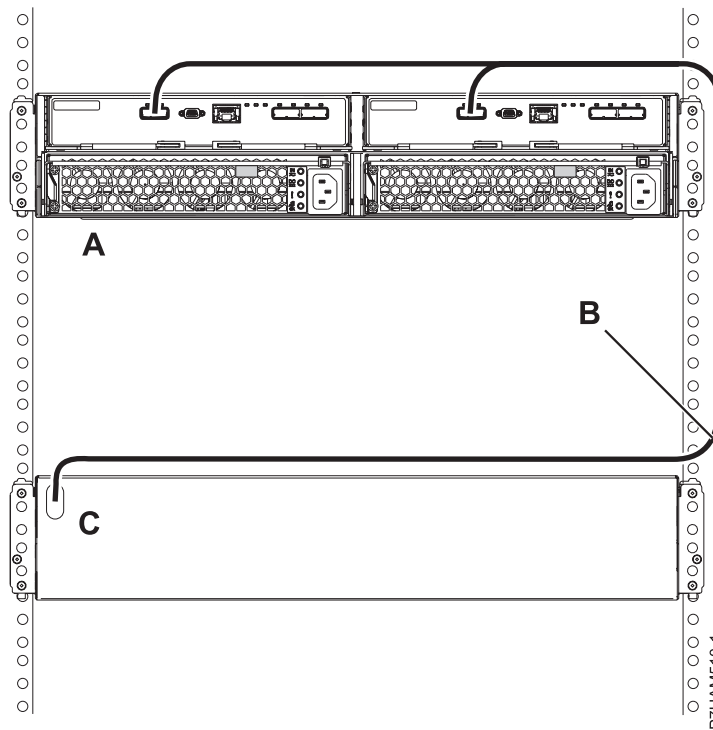

Figure 34. Mode 1 connection of one 5887 disk drive enclosure by using a YI cable to a system with support for a single SAS drawer
8. Perform the mode 1 connection of one 5887 disk drive enclosure (A) by using a YI cable (B) to a system with support for a single SAS drawer (C) as shown in Figure 34.